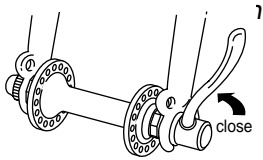

fig. 12 QR Closed Position
(2) With the steering fork facing forward, insert the wheel between the fork blades so at the axle seats firmly at the top of the slots which are at the tips of the fork blades — the fork drop-outs. The quick-release lever should be on the left side of the bicycle (fig. 12 & 13). If your bike has a clip-on type secondary retention device, engage it.